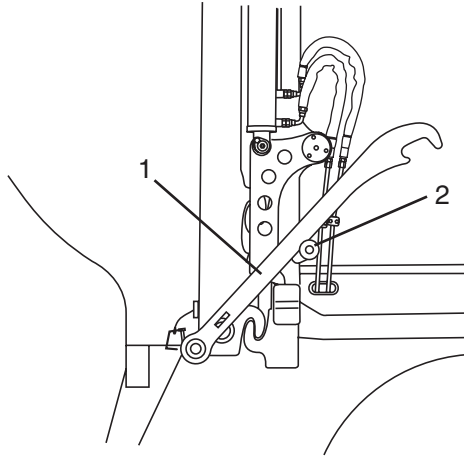

Figure 52
3. Rotate the props (Figure 52, Item 1) forward and rest it on the pin (Figure 52, Item 2) on the body.